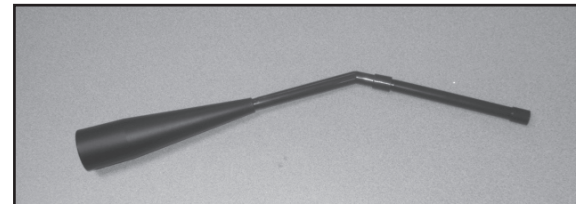

Figure 23.4
- Assemble the crevice tool from the micro cleaning kit to attach to a Shop Vac (**Figure 23.4**).